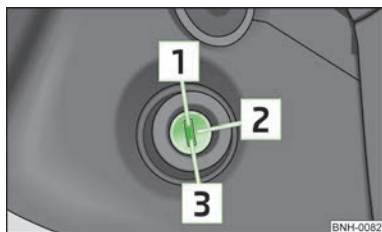

Fig. 63
- When driving, the ignition key must always be in the position **2** » Fig. 63 on page 70 (ignition switched on) without the engine running. This position is indicated by the warning lights coming on. If this is not the case, it could result in unexpected locking of the steering wheel – risk of accident!
- The starter may only be operated (ignition key position **3** » Fig. 63 on page 70), if the engine is not running. The starter or engine can be damaged if the starter is activated when the engine is running.
If the **steering is locked** and the key cannot or can only be turned with difficulty into the position » Fig. 63, move the steering wheel back and forth and the steering lock will unlock.
- Fully depress and hold the clutch pedal, switch on the ignition » Fig. 63 on page 70 and start – do not operate the accelerator. Depress the clutch pedal until the engine starts.
Switch off the engine by turning the ignition key into position » Fig. 63 on page 70.